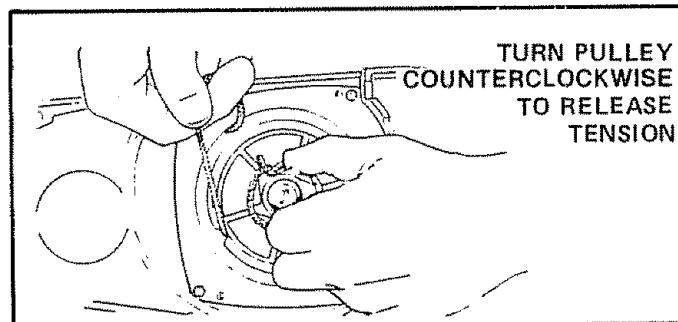

Figure 47
3. If the starter rope is not broken, release the spring tension by pulling about 12 inches of rope from the pulley and catch the rope in the notch as shown. Figure 47.